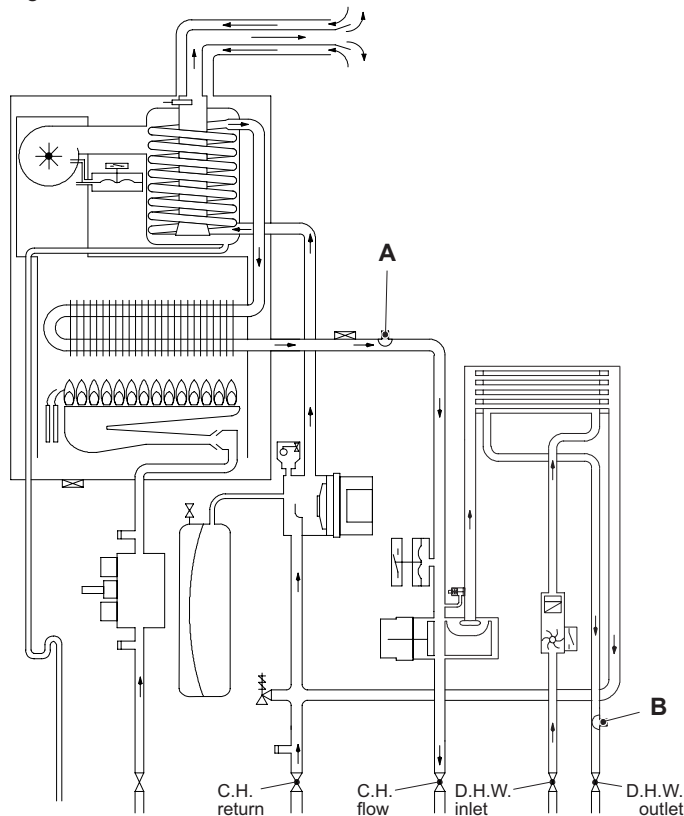
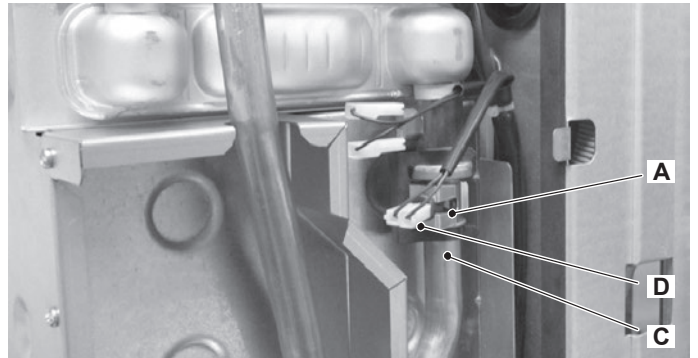
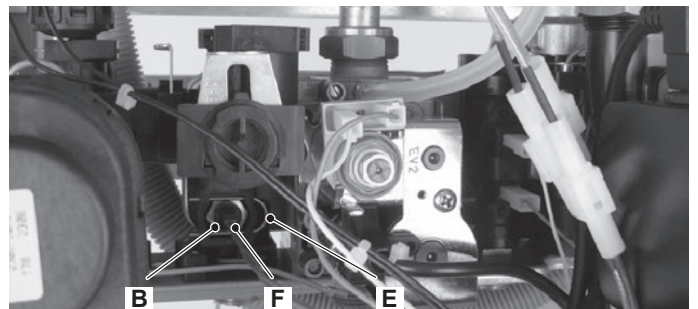

Figure 15.2
Figure 15.3
Figure 15.4
On the boiler there are two Temperature probes. One on the output of the primary heat exchanger (C.H. temperature probe) A in Figure 15.2 and Figure 15.3; one on the output of the D.H.W. heat exchanger (D.H.W. temperature probe) B in Figure 15.2 and Figure 15.4.
- 2 Remove the electric connector D and remove the C.H. Temperature probe A (Figure 15.3).
- 3 Remove the fixing spring E (Figure 15.4).
- 4 Remove the electric connector F and unscrew the D.H.W. Temperature probe B (Figure 15.4).